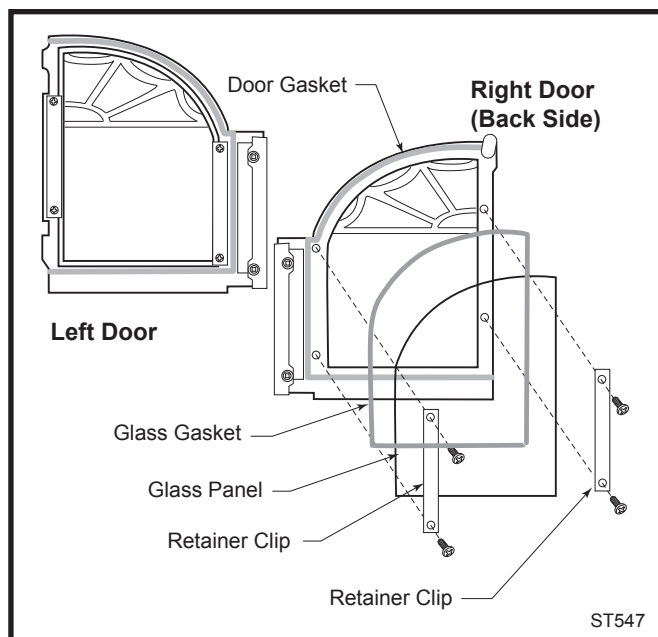

Fig. 36 An exploded view of the glass assembly.
2. Secure the glass on both doors with the retainer clips. Tighten all screws. (Fig. 36)